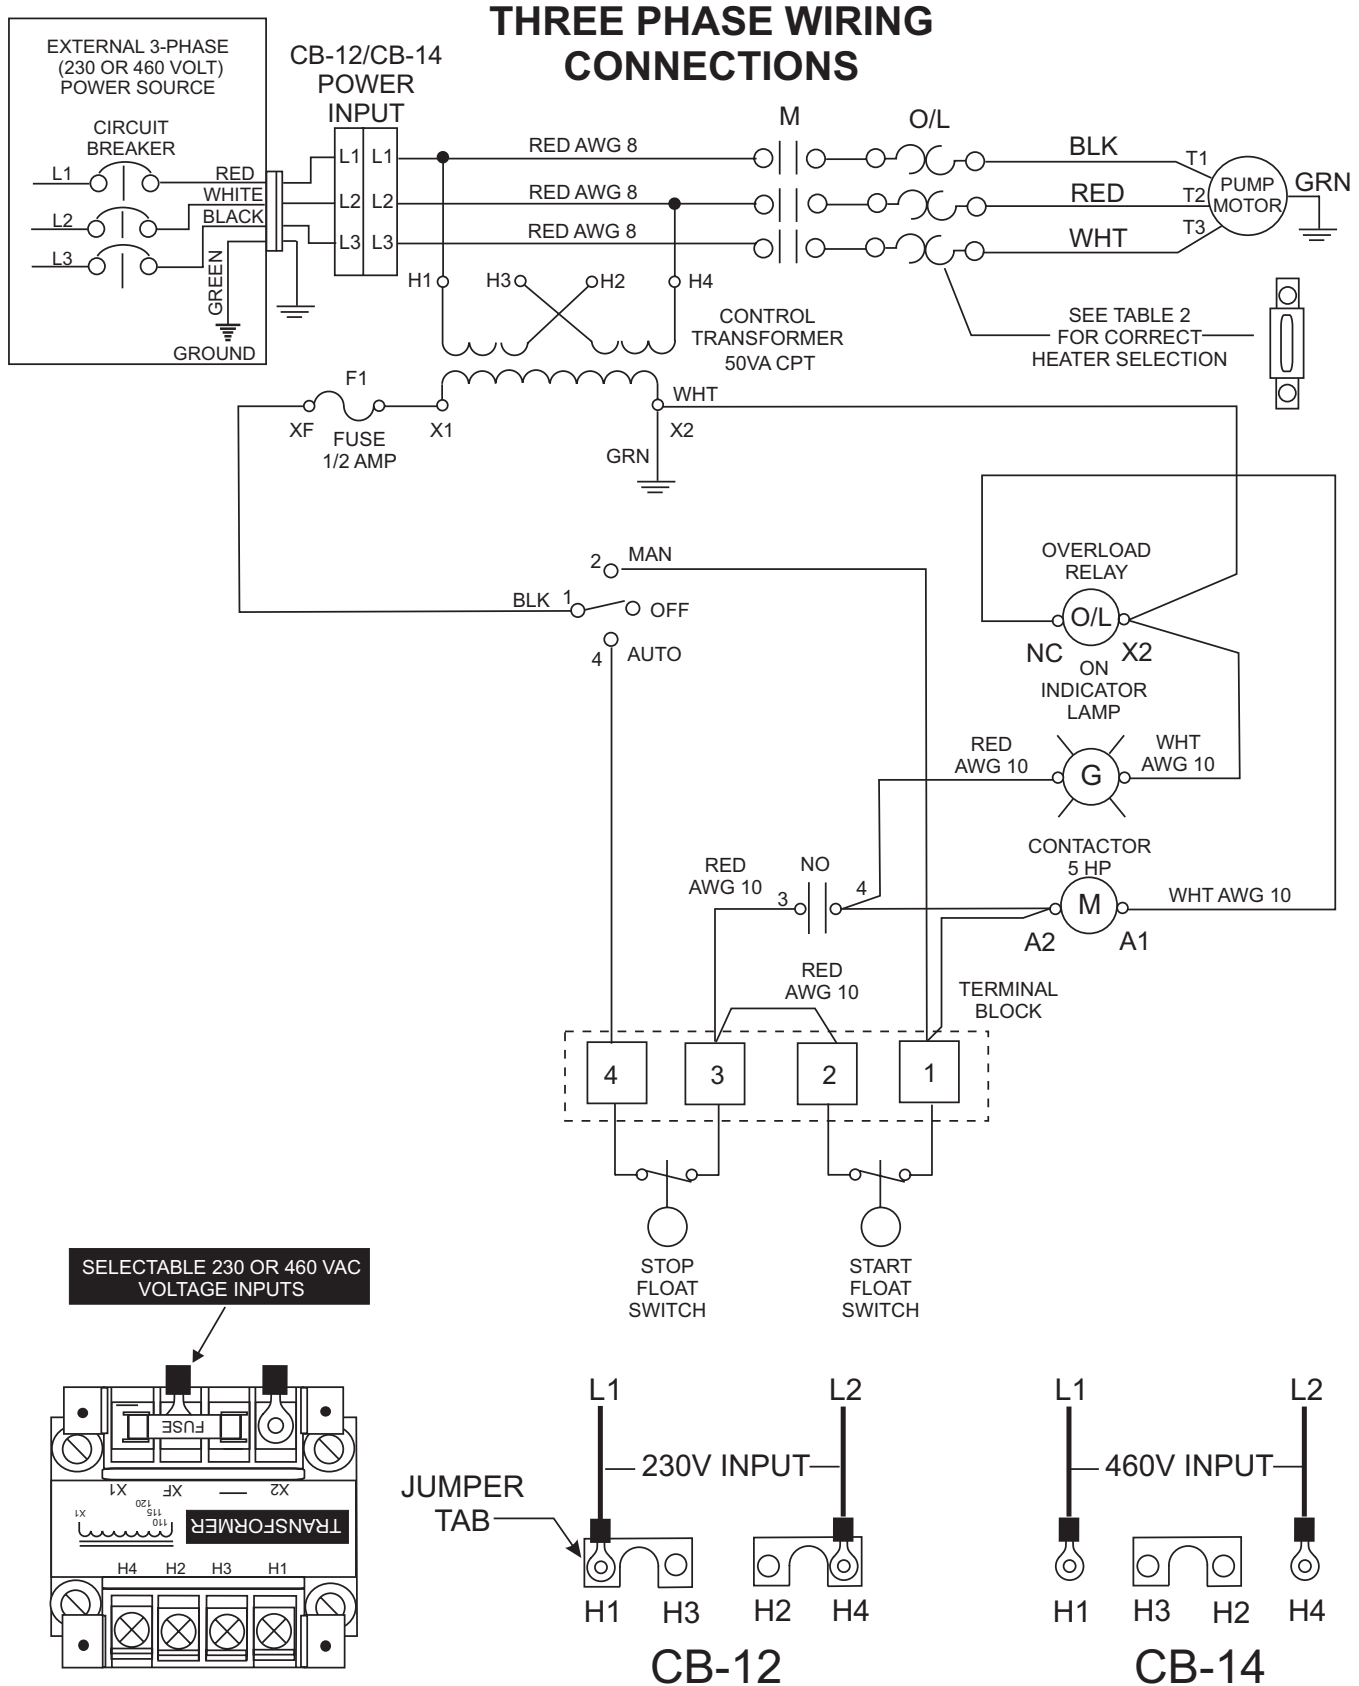

Figure 7. Control Box Wiring Diagram
1. Remove the float switch input connector housing, then route the float switch wires through the cable gland on the control box. Attach the wires to the float switch terminal block as indicated by Table 4. Refer to Figures 7 and 8.